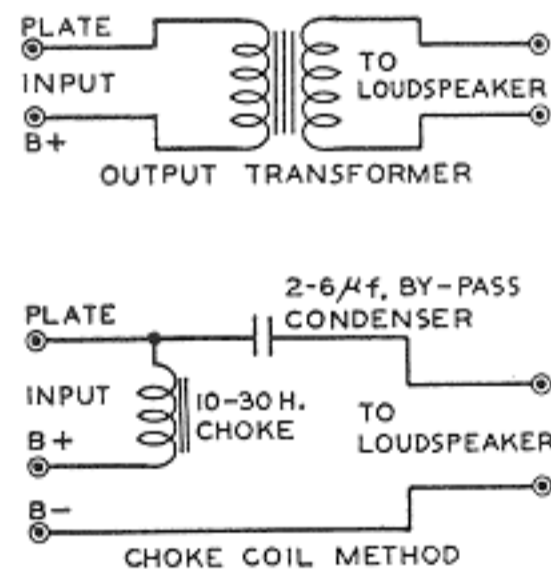

Fig. 20
Output coupling devices are of two types, (1) choke condenser and (2) transformer. The choke-condenser type consists of an iron-core choke coil with an inductance of not less than 12 henrys which is placed in series with the plate and B-supply. The choke offers a very low resistance to the d-c plate current but opposes the flow of the fluctuating signal voltage. A by-pass condenser of 2 to 4  $\mu\text{f.}$  supplies a path to the speaker winding for the signal voltage. The transformer type is constructed with two separate windings, a primary and a secondary wound on an iron core. This construction permits of designing each winding to meet the requirements of its position in the circuit. Typical arrangements of each type of coupling device are shown in Fig. 20.